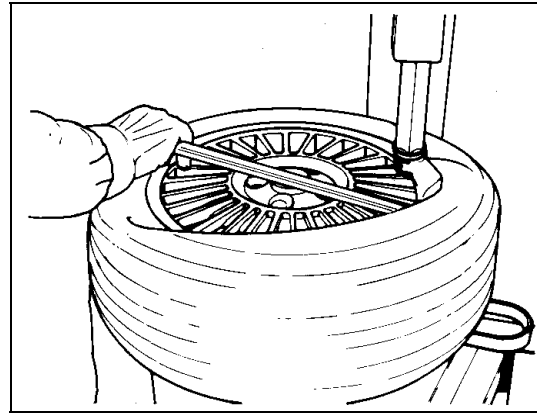

Fig.19
F. Insert the bead lifting tool under the bead and over the support of the mount/demount tool. Lift the bead onto the mounting finger. To make this operation easier, insure that the bead of the tire, directly across from the mount/demount tool, is in the drop center of the wheel. Push the tire into the drop center with your hand or bead depressor tool if necessary. If desired, the bead lifting tool can be removed after lifting the bead onto the finger (Fig.19).